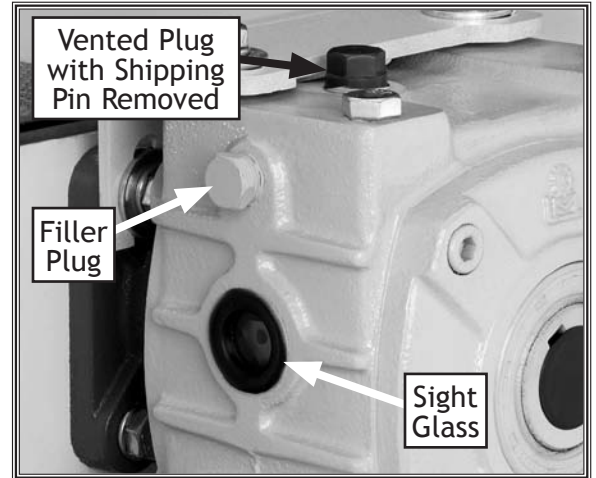

Figure 29. Gear reducer breather and filler plug.
- After the first 300 hours of use, replace the gear reducer (Figure 29) lubricant with straight 140W gear oil (available at most automotive parts stores) up to the center of the sight glass. DO NOT use the common 85-140 gear lube as the viscosity is too low and oil can leak past seals.
- After 2,500 hours of use thereafter, replace the gear lube and always clean the vented plug (Figure 29) to make sure it vents the gear case.